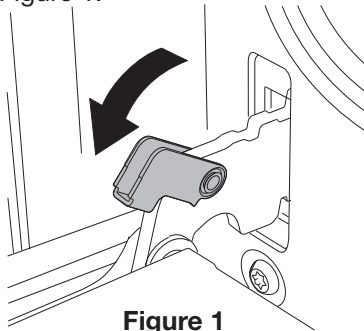

Figure 1
- 1** To remove the door, open the door to the maximum angle. Then pull the buckle at the door hinge backward. See Figure 1.